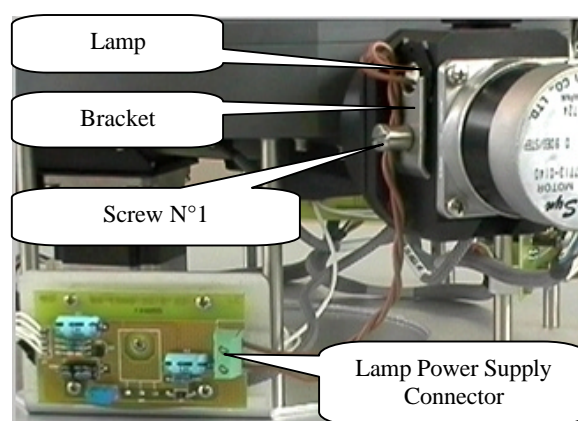

Fig.4
- 1) Disconnect the power supply wires from the Lamp Regulator Board by loosening the clamp screws on the M1 connector (Fig. 4).
- 4) Unscrew the lamp's fastening screw and remove the lamp from its housing (Fig. 4)
- 5) Replace the old lamp with a new one making sure that the pin is correctly inserted in the alignment hole (Fig. 4). Remount the assembly by repeating the above steps 4 through 1 in inverse order.